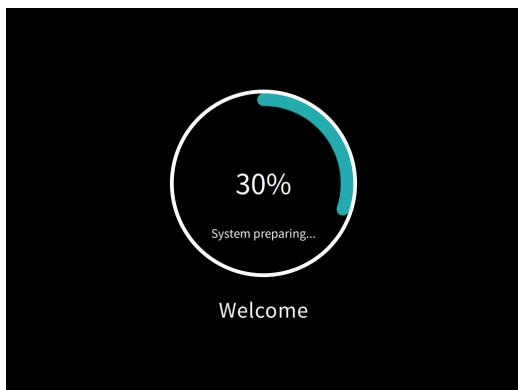

Figure 3.1 Startup View
3. After turning on the switch, the screen would show a progress bar, as shown in Figure 3.1.